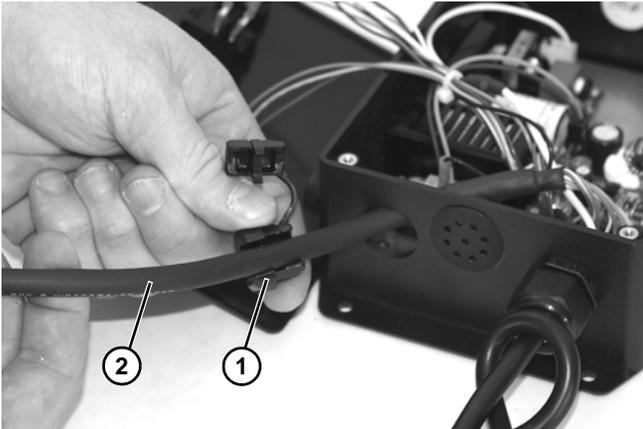

Figure 26
4. Remove cord retainer (Figure 26, item 1) from cord (Figure 26, item 2).